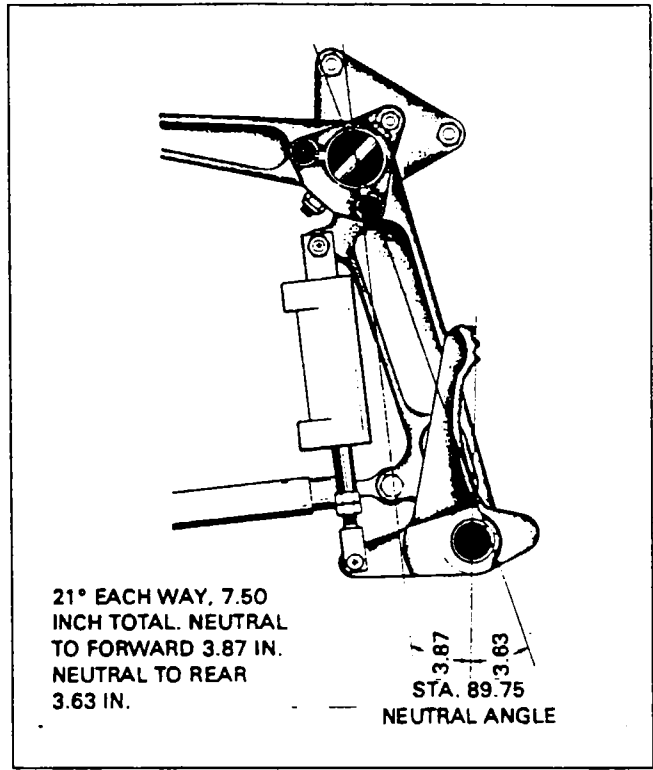

Figure 32-9. Rudder Pedals Neutral Angle
- H. Adjust the rod end bearings of each steering rod to align the nose wheel with the chalk line and to bring the rudder pedals into neutral angle forward and aft. To align the nose wheel straight forward, stand in front of the nose gear and align the center rib of the tire with the chalk line or lay a straightedge along the side of the tire and parallel the straightedge with the chalk line. The neutral angle of the rudder pedals is at station 65.75 and center of the rudder pedal tube. (Refer to Figure 32-9.) One end of each rod must be disconnected and jam nuts loosened to make this adjustment. Do not attempt to make the adjustment by means of one bearing, but divide the adjustment between the bearings at each end of each rod. Check that rod ends have sufficient thread engagement, reinstall rods and secure jam nuts.